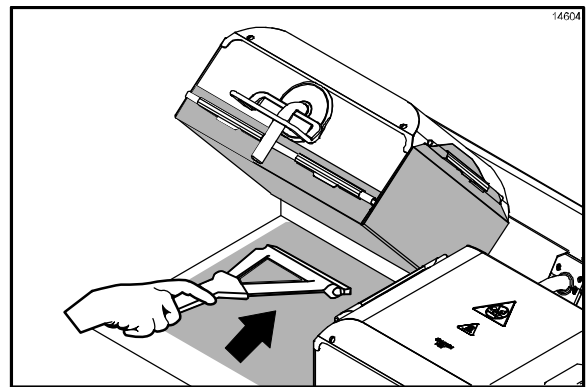

Figure 29
1. Squeegee the lower release sheet from front to back. (See Figure 29.)